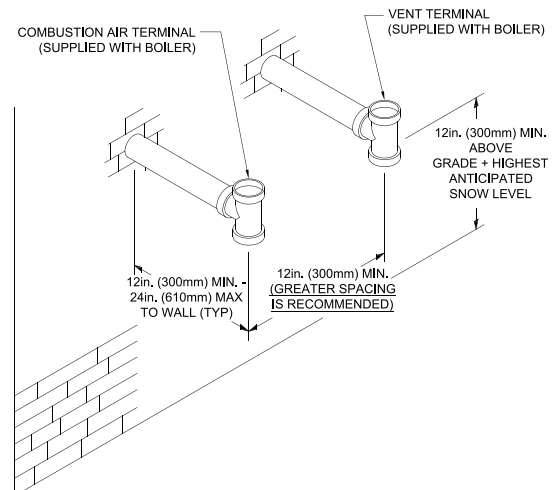
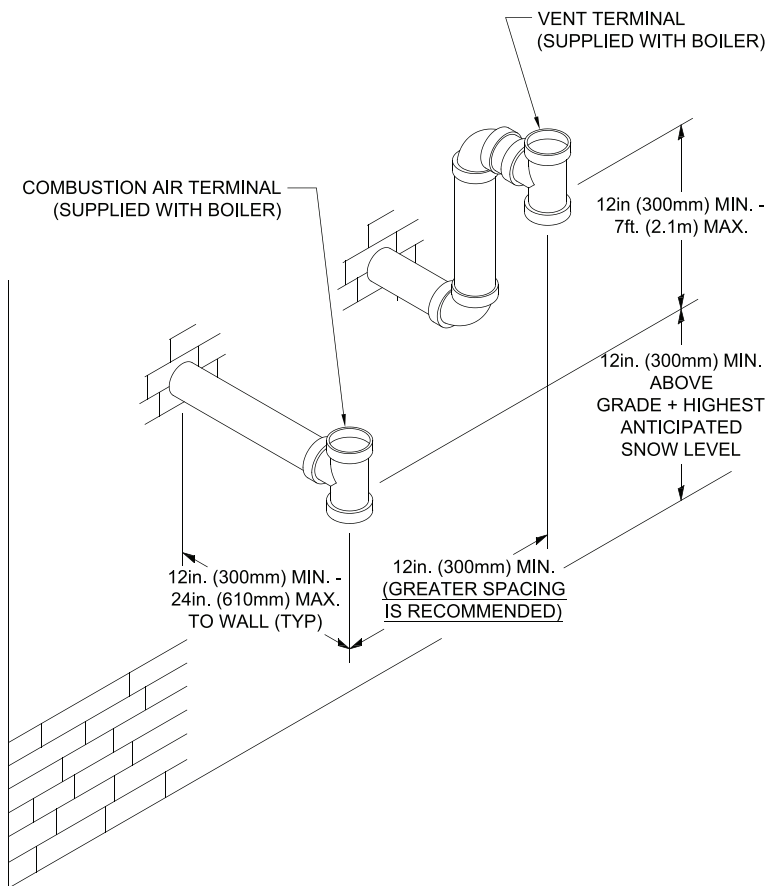
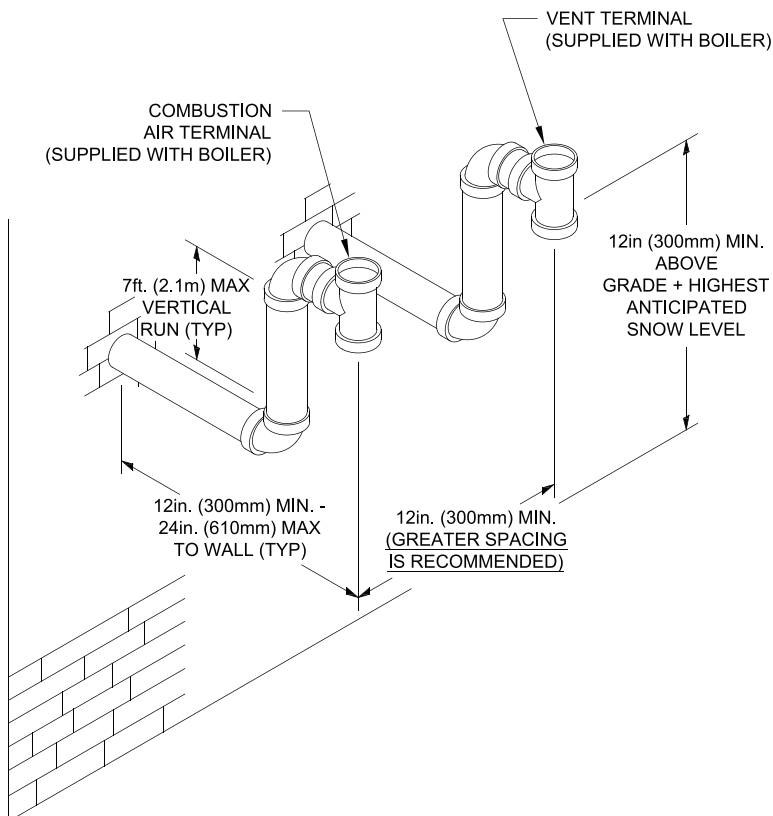

Figure 5: Direct Vent - Sidewall Tee Terminations
Figure 6A: Direct Vent - Optional Vent Sidewall Snorkel Termination
Figure 6B: Direct Vent - Optional Vent and Combustion Air Sidewall Snorkel Terminations
- i. Horizontal Sidewall Venting: Use tee terminals for both vent and combustion air as shown in Figure 5. Alternate snorkel terminations are shown in Figure 6A and Figure 6B.
- b. See Table 7B for CPVC/PVC installer provided vent and combustion air components required for optional horizontal snorkel terminals shown in Figure 6B.